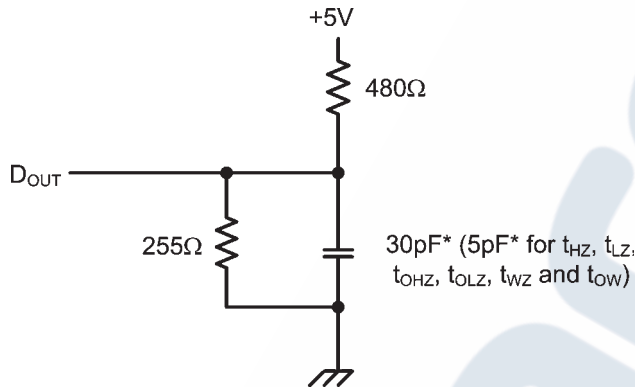

Figure 1. Output Load
**TIMING WAVEFORM OF READ CYCLE NO. 1 ( $\overline{OE}$  CONTROLLED)(5)****Notes:**5.  $\overline{WE}$  is HIGH for READ cycle.6.  $\overline{CE}_1$  is LOW,  $\overline{CE}_2$  is HIGH and  $\overline{OE}$  is LOW for READ cycle.7. ADDRESS must be valid prior to, or coincident with  $\overline{CE}_1$  transition LOW and  $\overline{CE}_2$  transition HIGH.8. Transition is measured  $\pm 200$  mV from steady state voltage prior to change, with loading as specified in Figure 1. This parameter is sampled and not 100% tested.
Output Load	See Figures 1 and 2